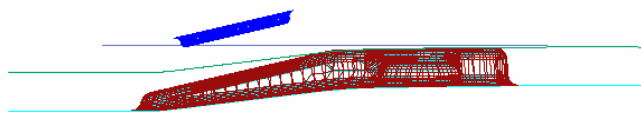

Figure 5.77 Animation of tool movement
- The time step and displacement of tools are printed on the upper left hand corner of the display area. See Figure 5.77.